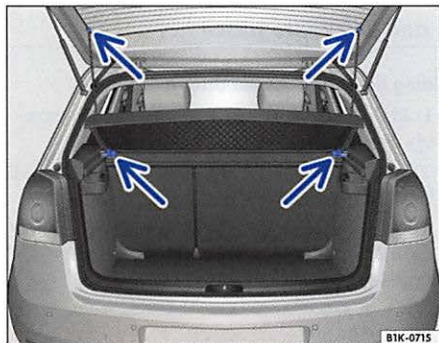

Fig. 87 In the luggage compartment: Installing and removing the luggage compartment cover.
- Unhook the supporting straps from the rear hatch ⇒ **fig. 87** (top arrows).
- Pull the luggage compartment cover back and out of the side brackets ⇒ **fig. 87** (bottom arrows).
- Slide the luggage compartment cover forward into the side brackets ⇒ **fig. 87** (bottom arrows).
- Hook the supporting straps onto the rear hatch ⇒ **fig. 87** (top arrows).